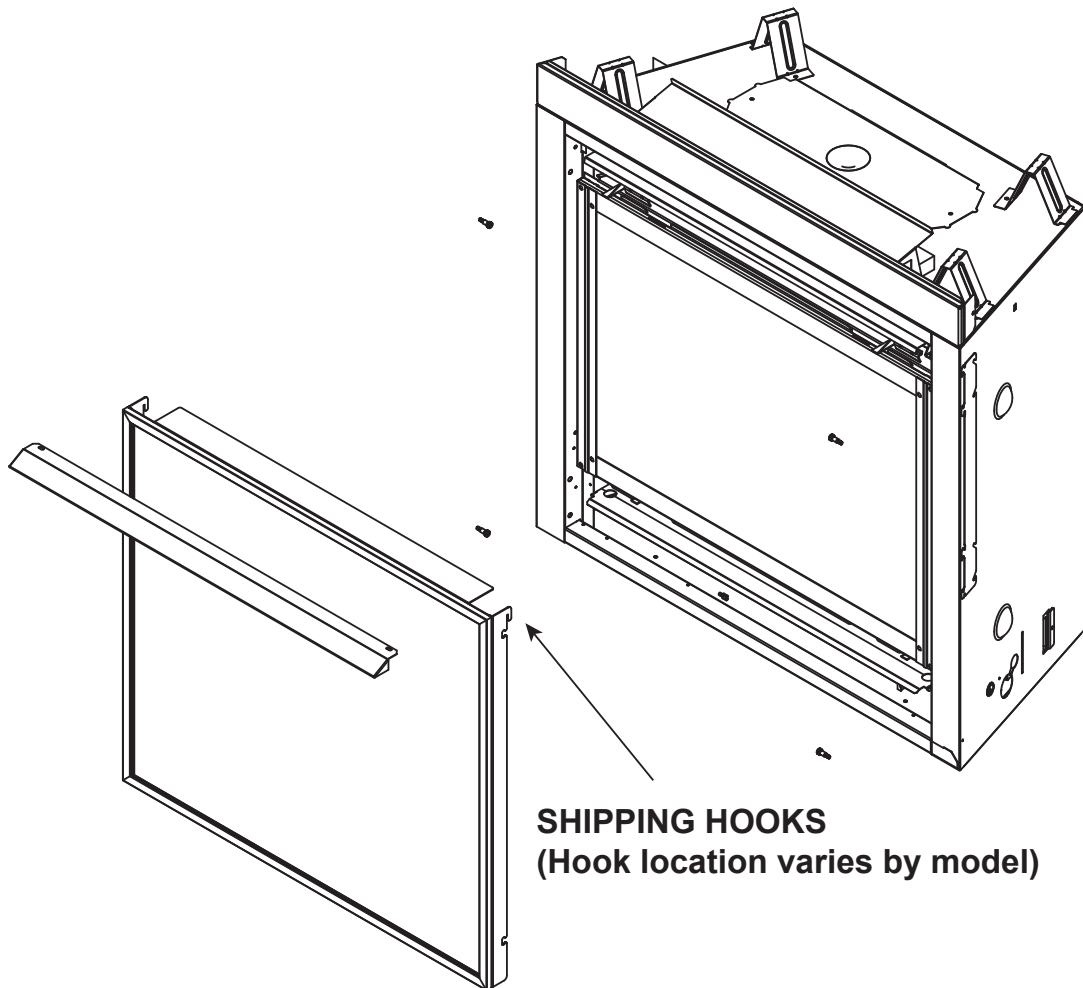

Figure 10.7 Install Decorative Front and Hood
2. Install four shoulder bolts as shown in figure 10.7.
4. Install hood on appliance by inserting into the two hood clips. See Figure 10.7.